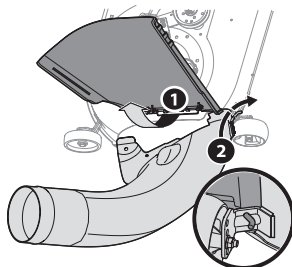

Figure 13
1. With the tractor's discharge chute raised up and held open (1), install the boot by placing the boot mounting rod into the chute mounting tab (2), as shown in Figure 13.